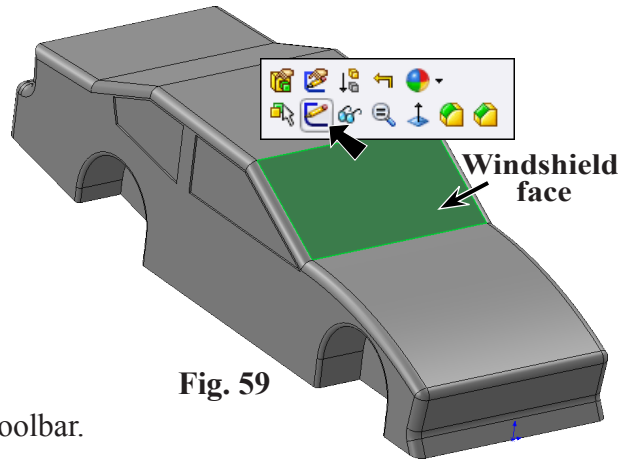

Fig. 59
Step 1. Rotate view to view **right side window** to confirm mirrored windows, **Fig. 59**. Hold the **middle mouse button** (wheel) and rotate view around to view mirrored side windows.
Step 2. Click the **face of windshield** and click **Sketch**  on the Content menu, **Fig. 59**.